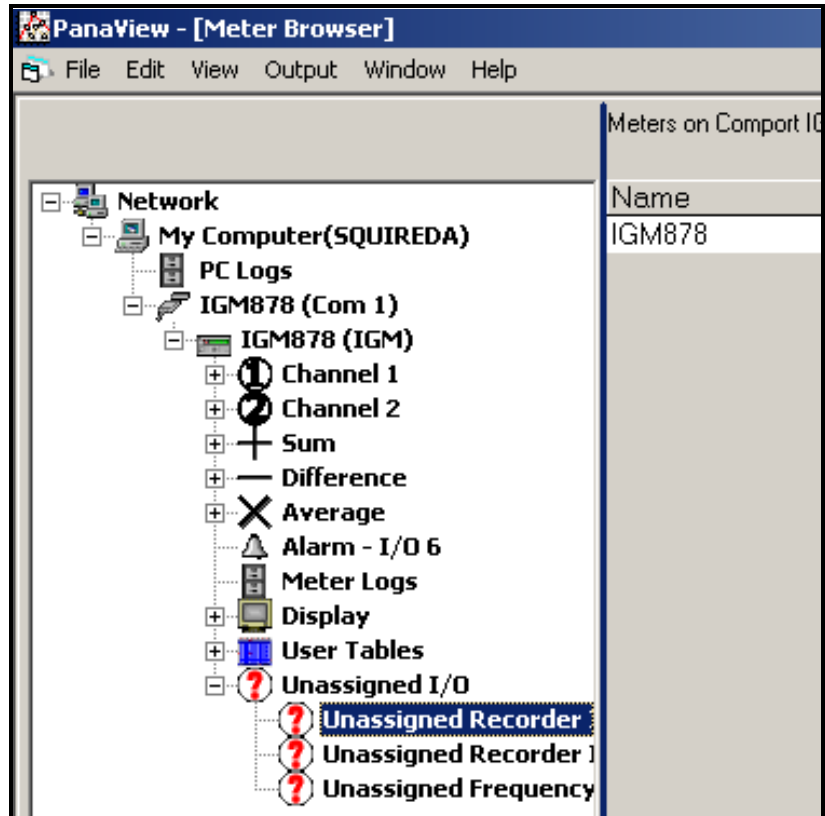

Figure 3-2: PanaView Meter Browser Menu
With PanaView installed on your computer (see the *PanaView Graphical Interface User's Manual*), you can enter and record meter information in a number of different ways. The Meter Browser Menu is illustrated in Figure 3-2 below.
2. To enter values for Channel 1, click on the + sign before each level to open it (see Figure 3-2 on page 3-5).